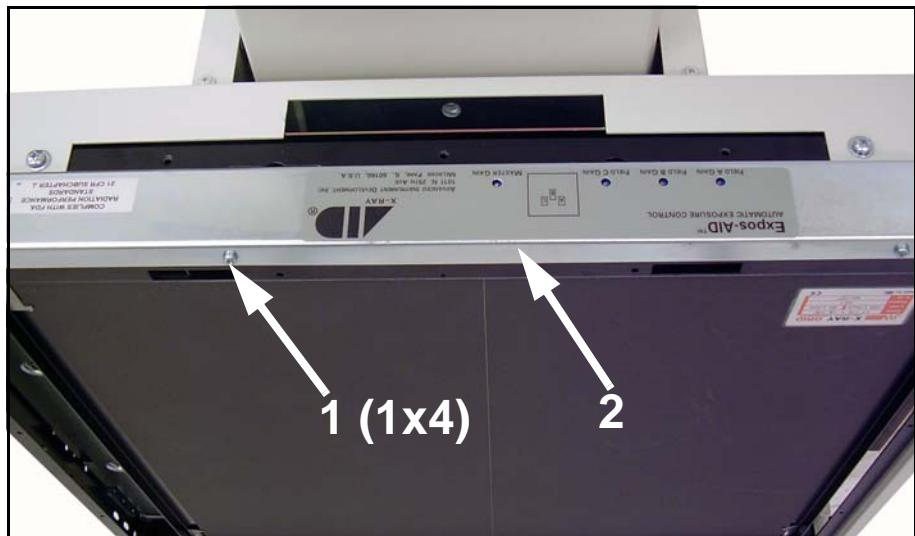

Figure 5-7. ION Chamber Cover Screws
- 11 Unscrew four cover screws (1 in Figure 5-7) and remove ION cover (2).